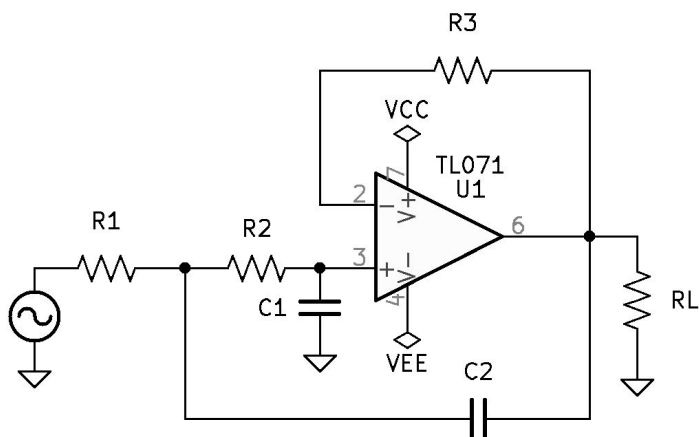

Figure 8.6: Low-Pass Second-Order Active Filtering Circuit.
1. See Figure 8.6 *Low-Pass Second-Order Active Filtering Circuit* on page 80.